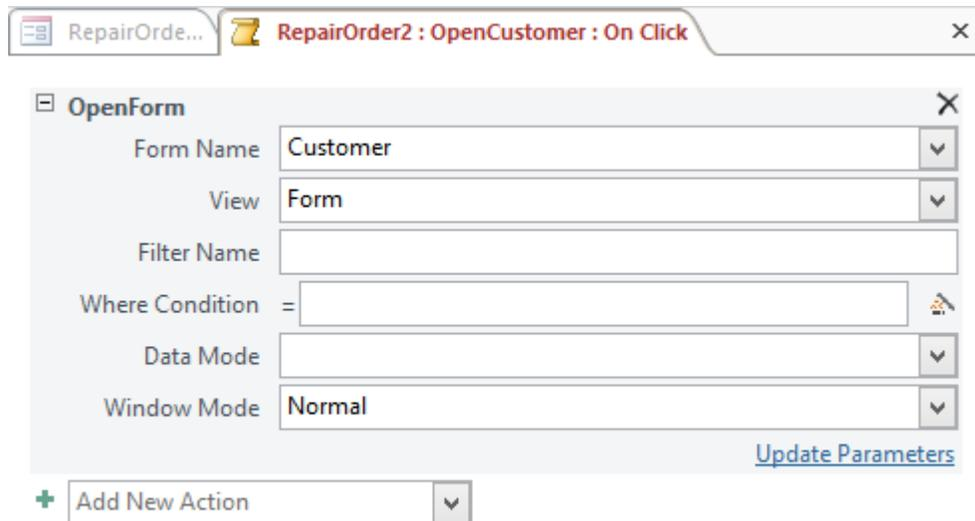

Figure 35: Expanded Event Macro for the Click Event
3. Revise Macro: Click on text of the macro to open it. After clicking on the text, you should see the expanded Macro details (Figure 35). Revise the parameters of the expanded macro as listed in the following bulleted list.